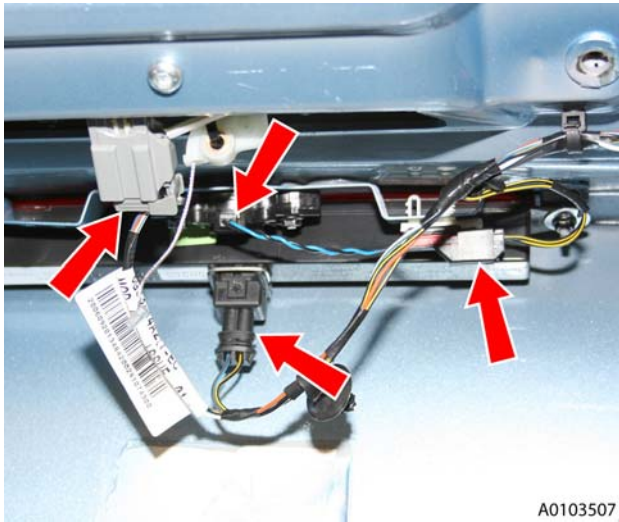

Figure 4
8. Disconnect multiplugs from latch, boot lid release switch, release solenoid and stop light (see Figure 4).